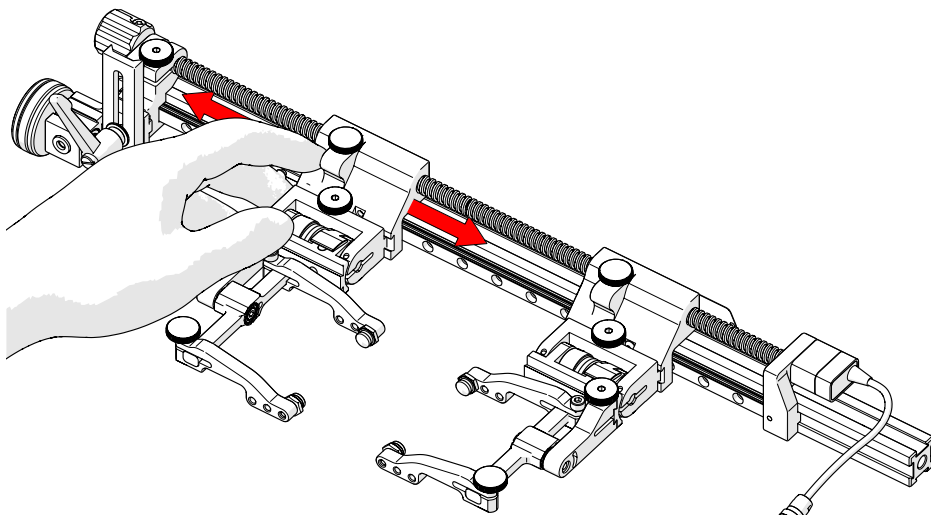

Fig. 168 - Quick positioning
3. When the knobs are loose, it is possible to push the carriages in place for quick adjustment (*Fig. 168*). Tighten both knobs to lock the carriages in position.